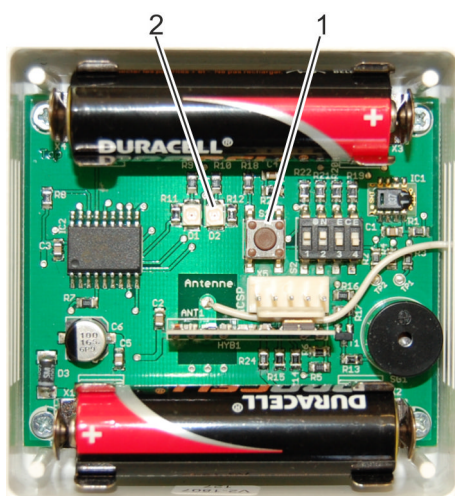

Fig. 13: Checking functionality
3. ➤ Check the wireless sensor system for functionality. To do so, press the black button (Fig. 13/1).
- ⇒ The diode (Fig. 13/2) briefly lights up; the wireless sensor system is operational. The sound of an alarm indicates that the batteries must be replaced.